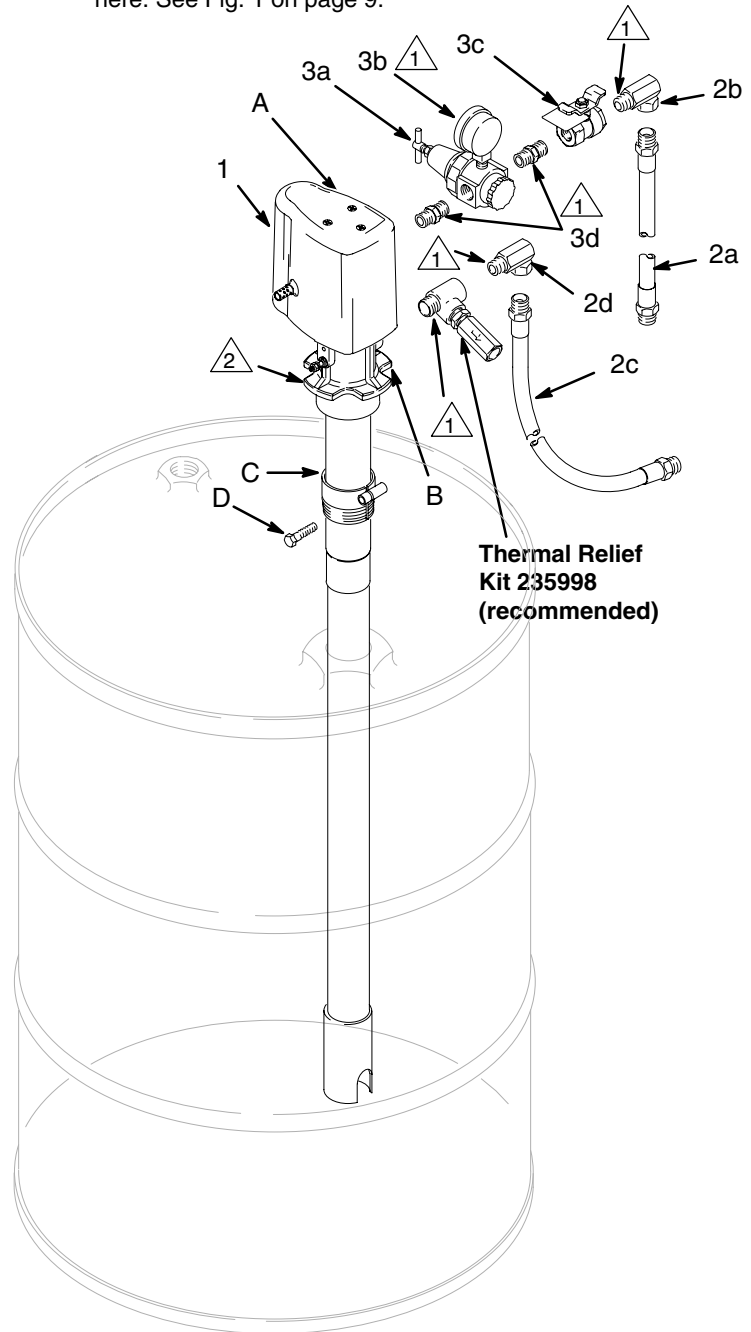

Fig. 4
1. Screw the bung adapter (C) into the bung hole of the drum. Adjust the pump (1) so its intake is about 1 in. (25 mm) off the bottom of the drum, then tighten the bung adapter screw (D) to hold the pump in position. See Fig. 4.
2. Assemble the air regulator kit (items 3a–3d) to the pump air inlet (A), as shown. Use thread sealant and tighten all parts securely.
4. Apply thread sealant to the male threads of the 1/2 npt swivel union (2d). Screw the union into the pump fluid outlet (B).